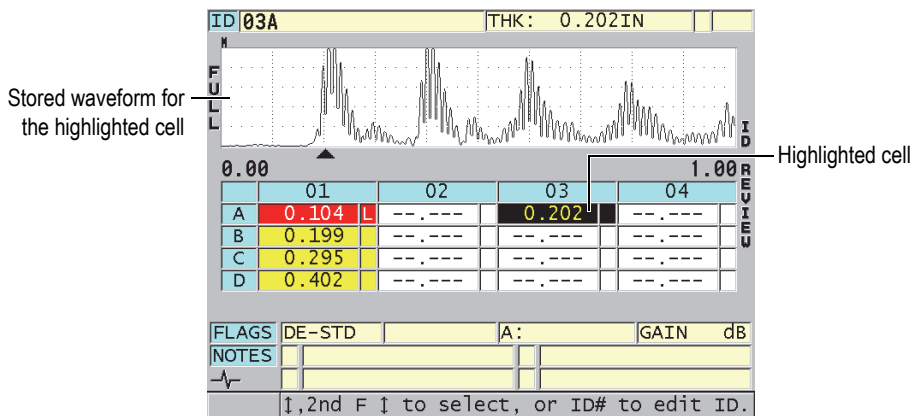

Figure 10-13 The highlighted DB grid cell in the ID review screen
3. In the ID review screen (see Figure 10-13 on page 169):